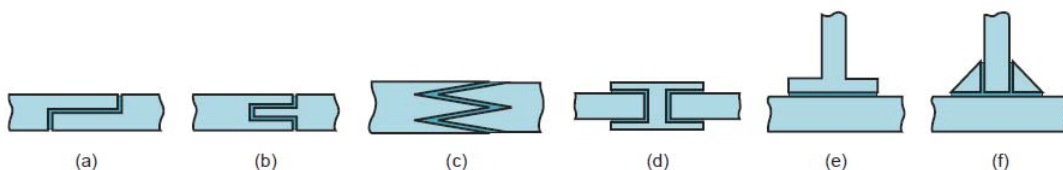

Figure Q6
- (a) Name the joints shown on Figure Q6 [5]